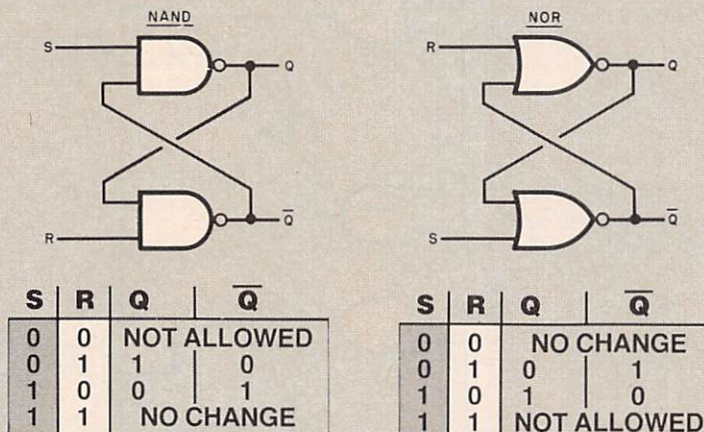

Fig. 11. Simplest flip-flop is made from two NAND's or two NOR's with truth tables as shown.
The RS Flip-Flop. The simplest flip-flop is made from two NAND or NOR gates with crisscrossed inputs and outputs as shown in Figure 11. This basic circuit is called a reset-set (RS) flip-flop or simply a latch. Figure 11 also shows the truth tables for NAND and NOR gate versions of the RS flip-flop.